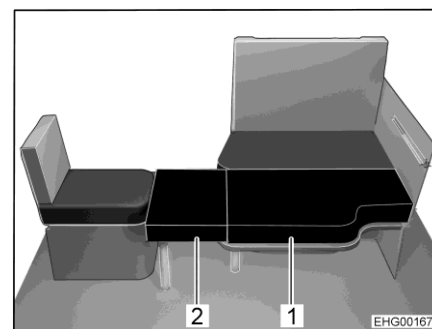
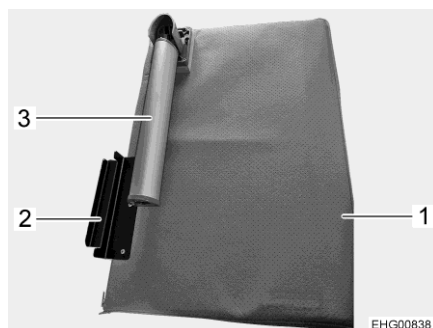

Fig. 129 After conversion
Fig. 130 Additional board
- Unfold the support foot (Fig. 130,3) on the additional board (Fig. 130,1).
- Attach the support bracket (Fig. 130,2) of the additional board to the individual seat and place the additional cushion (Fig. 129,2) on the table top.
- Place the second additional cushion (Fig. 129,1) on the table top.